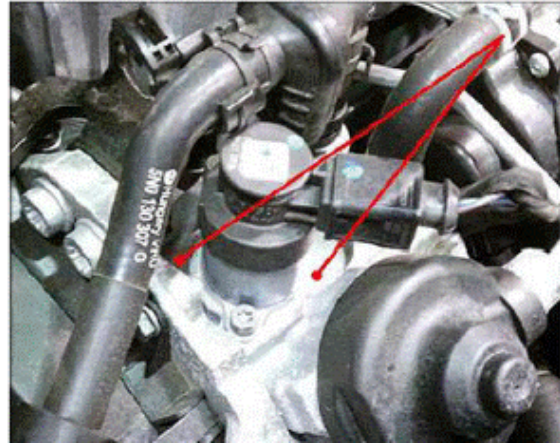

Figure 1. The area surrounding the N290 fuel metering valve.
1. Prepare to remove the N290 fuel metering valve by first cleaning the area around the valve then drying the area using compressed air (Figure 1). All debris must be removed from the area to ensure that no debris enters the fuel system and causes damage.